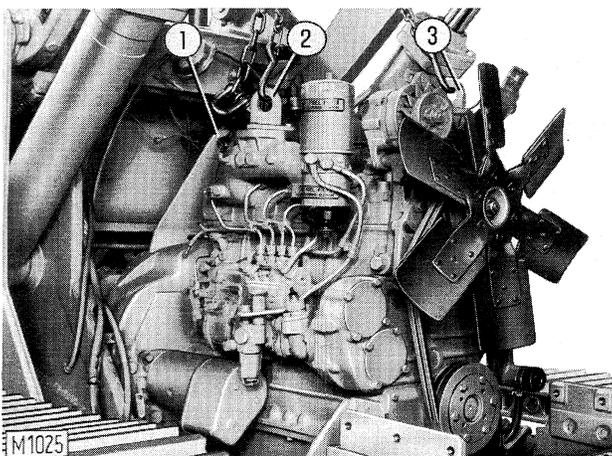

Fig. 2-3 Removal (installation) of engine using lift hook 290740.
- Attach the support brackets with pads to the engine use lift hook 290740 and place the engine on the machine (fig. 2-3).